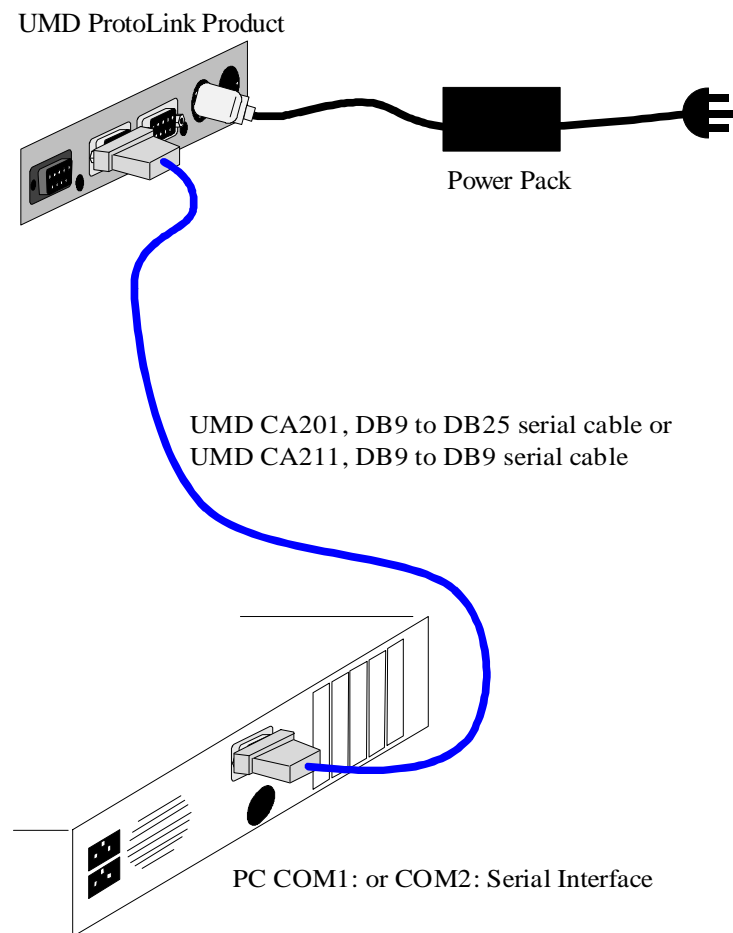

Figure 2
- 2) Referring to figure 2, connect the UMD CA201 or CA211 serial cable to either the S1 or S2 serial port on the UMD ProtoLink Product.